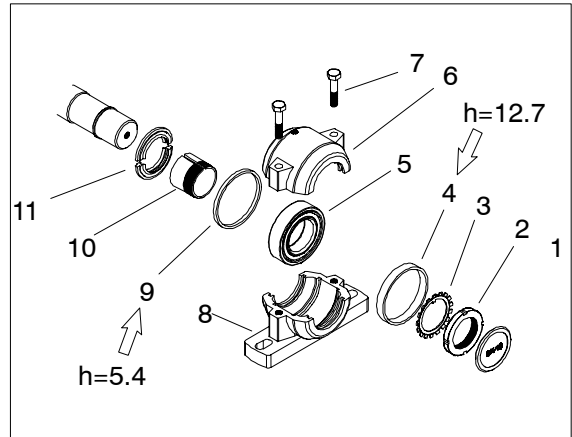

Fig. 13. Bearing, feeder side.
7. Remove the fastening bolts M10 (7) and the upper bearing housings (6).
10. Bend the claw of the securing ring (3) out from the notch on the axle nut and open the axle nut.
11. Remove the axle nut, securing ring, spacer ring (4), bearing (5), spacer ring (9), and tightening cone (10).
12. Install the tightening cone, spacer ring (9), and bearing on the disk shaft. Note the thickness of the spacer ring (9) – see Fig. 13.
16. Bend one claw of the securing ring (3) into a notch on the axle nut.
17. Install the other half of the dust cover and end plate on the bearing housing. Install the spacer ring (4) on the shaft.
- 6.Remove the bearings, fig. 13.